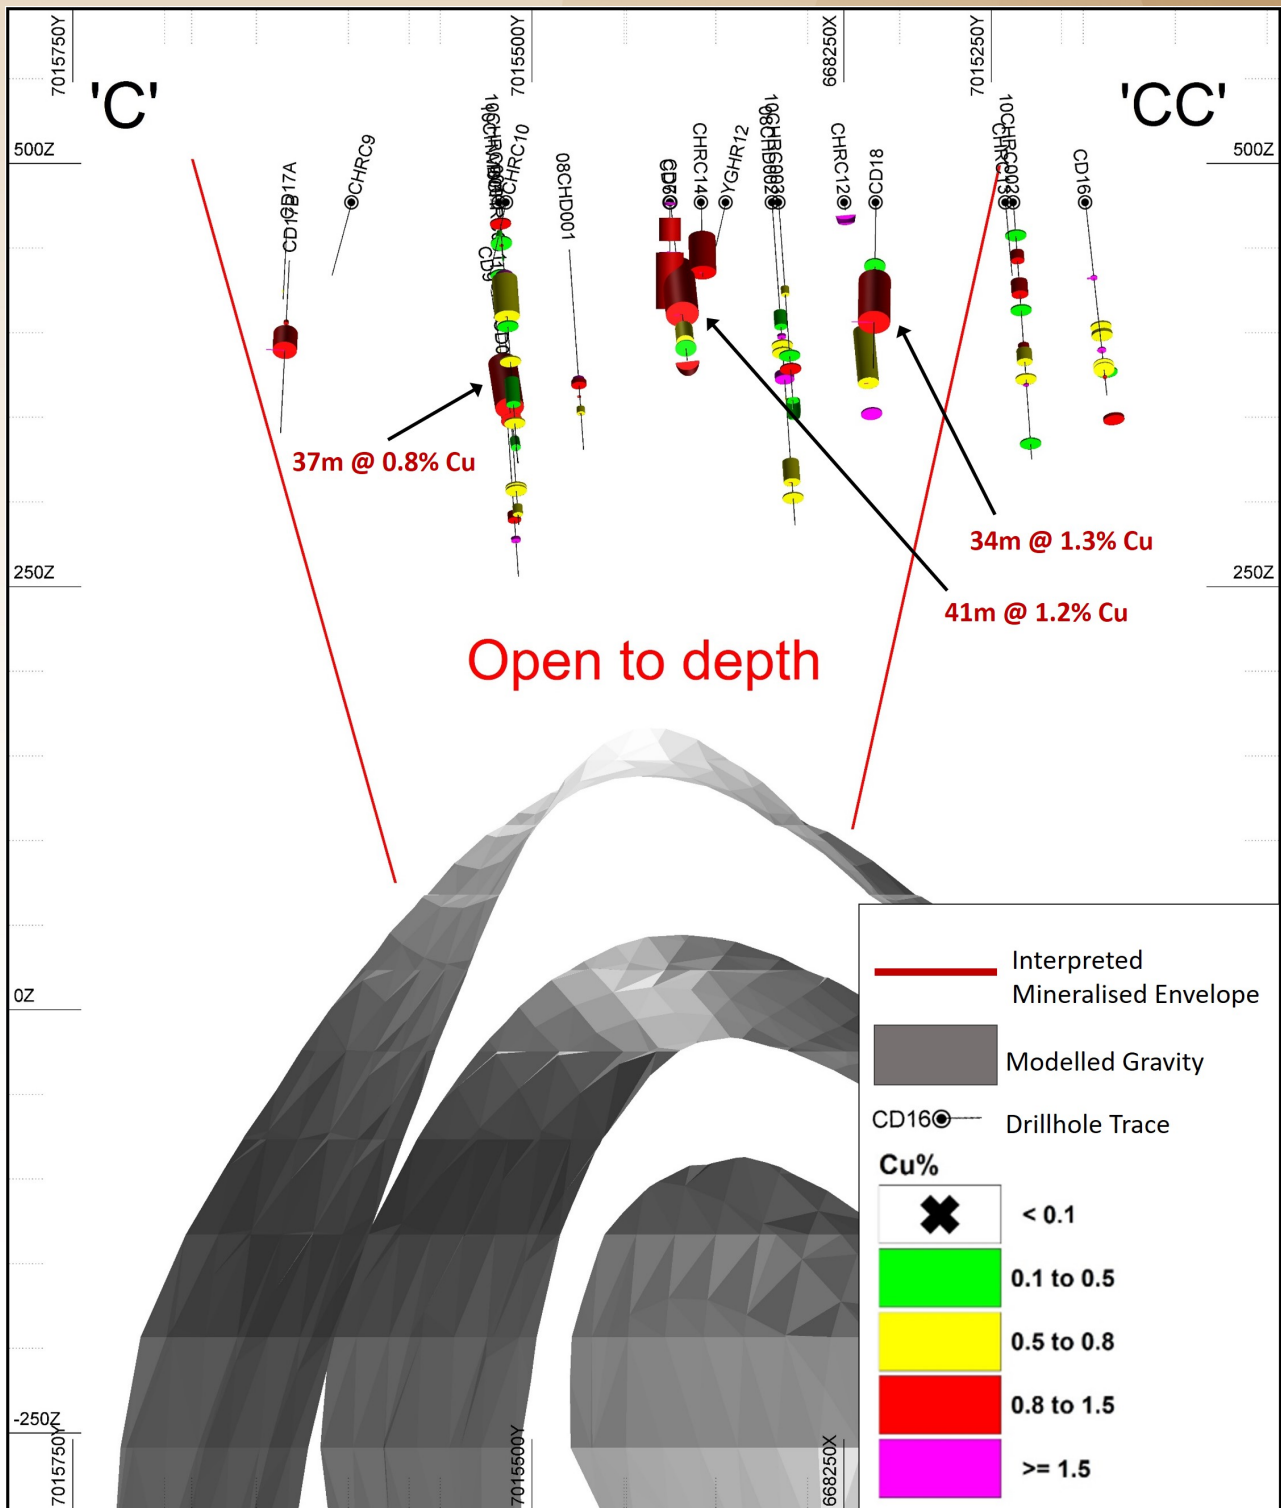

Figure 5: Modelling of disseminated mineralisation at the Copper Hills Prospect showing gravity modelling.
The ground gravity survey which was completed in February supports the modelling of multiple intrusive bodies. The mineralisation currently defined at the Copper Hills Prospect is plunging towards one of these modelled intrusive bodies (**Figure 5**).
*Table 3: Summary of historic drill holes from Figure 5.*